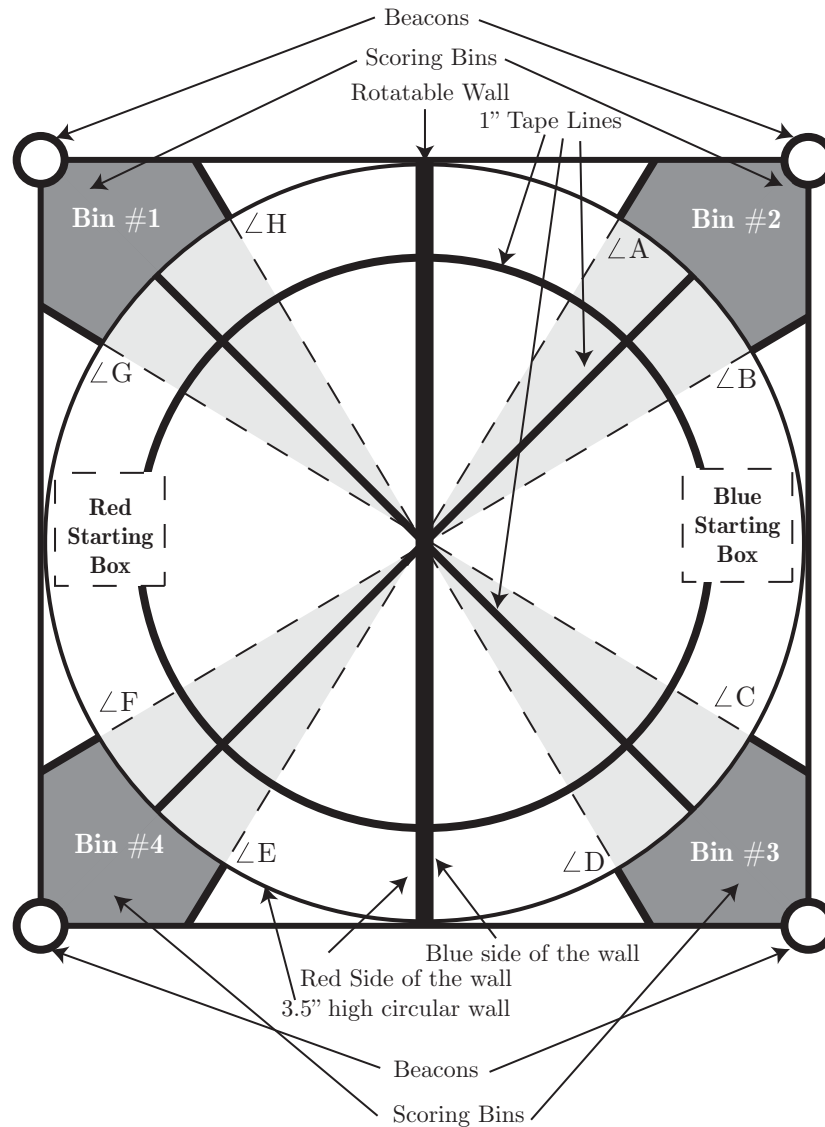

Fig. 1 The Playing Field
- At the end of the round, if the rotatable wall lies within the light grey region of Fig. 1 (defined by angle positions of A-B, C-D, E-F, G-H) the scoring bins at the ends of the wall are taken out of play and do not count for either side.